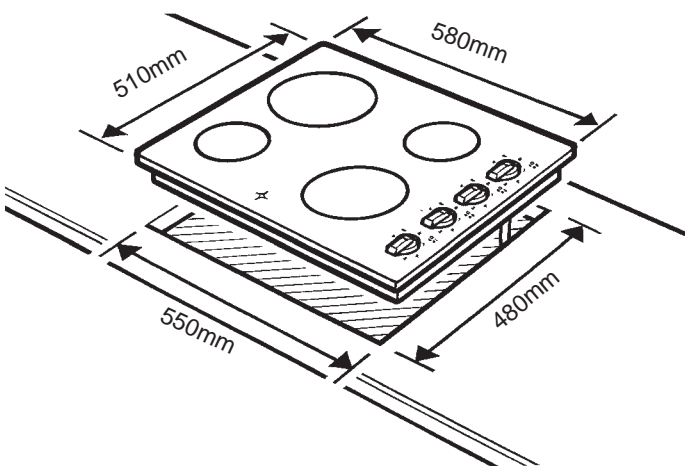
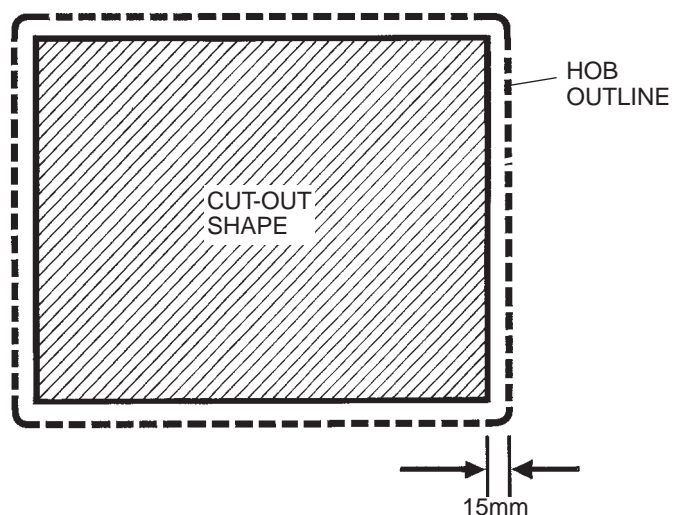

Figure 2
Figure 3
4. Lift the unit away to a safe distance, and check that the outline produced corresponds with the hob dimensions (580 x 510) in Figure 2.
5. Mark the cut-out (550 x 480 as in Figure 2) onto the masked work surface. The cut-out line should be in a central position so that there is an even space of 15mm between the cut-out shape and the hob outline, all the way round (Figure 3).